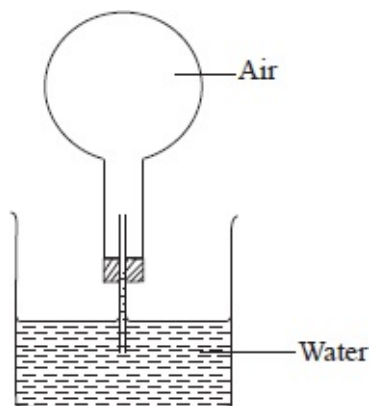

Fig. 6.19 (a)
- Invert the flask with the glass tube dipped into the water, as shown in figure 6.19 (a).